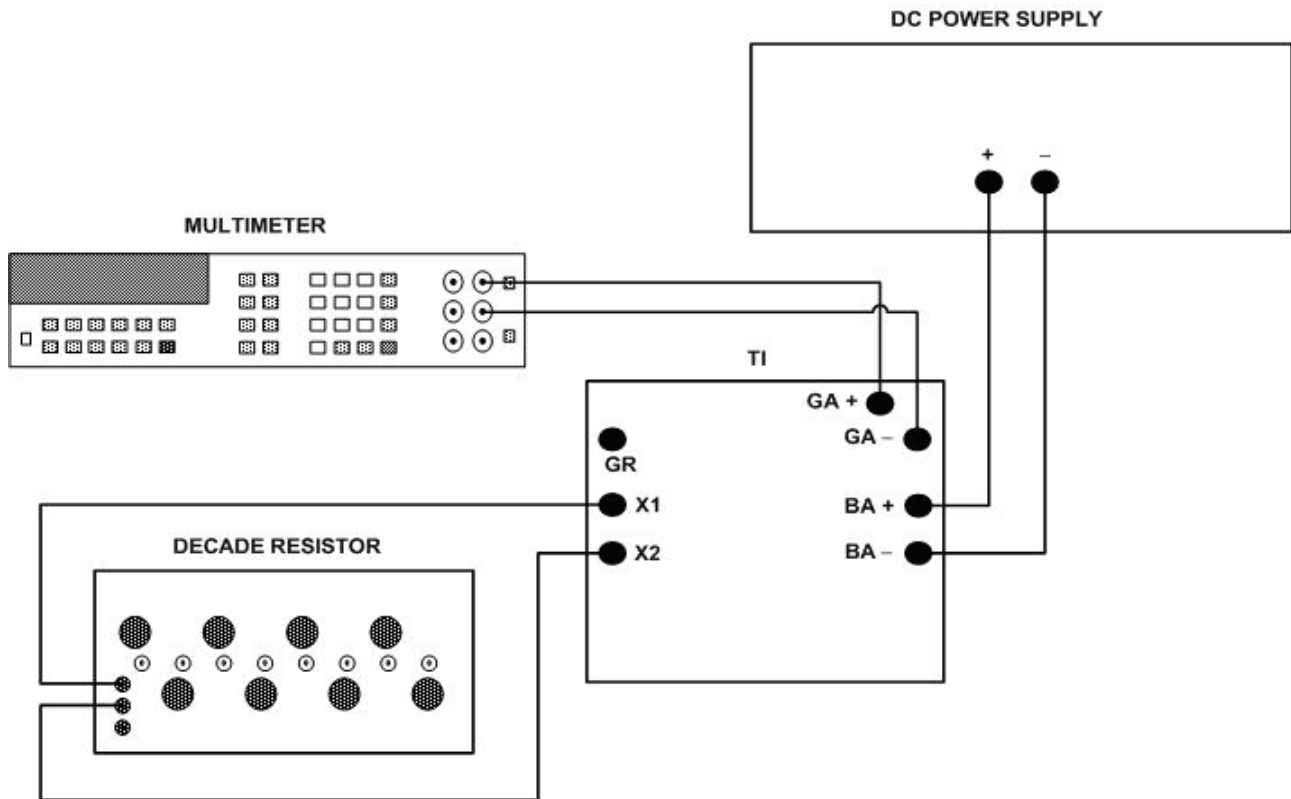

Figure 1. Ratio resistor check - equipment setup.
- (1) Connect decade resistor to multimeter.
- (2) Turn all decade resistor switches to 0.
- (3) Measure and record resistance value.
- (4) Turn decade resistor switches to 9.00 ohms.
- (5) Measure and record resistance value. Subtract value recorded in (3) above from this value. (This is the value of 9 ohms at decade resistor.)
- (6) Connect equipment as shown in figure 1.